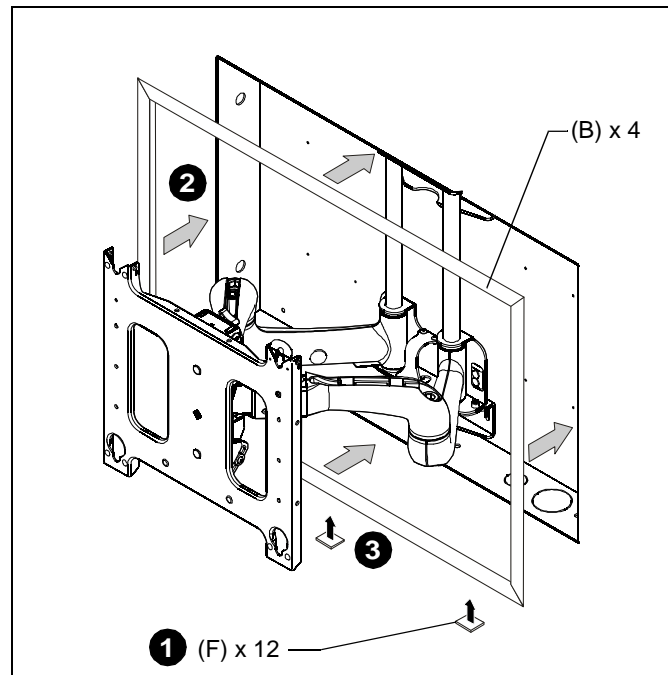

Figure 3
1. Remove paper covering adhesive and affix three tape squares (F) to inside lower flange of each trim piece (B). (See Figure 3)
2. Orient trim pieces (B) as shown in figure below. (See Figure 3)
3. Remove paper covering adhesive back from tape squares (F) on trim and press trim (B) against inner wall of box. (See Figure 3)